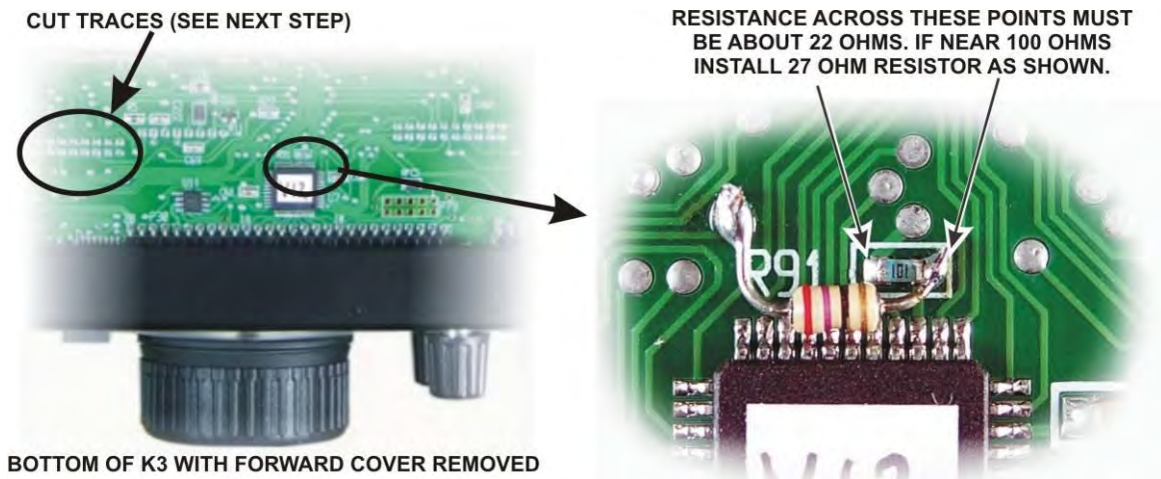

Figure 22. R91 Modification.
- Locate R91. It is a small surface-mount resistor near the front center of the RF board (see Figure 22).
- Use your DMM to measure the resistance across R91 in the circuit. If the resistance is about 22 ohms, you do not need to add the leaded resistor. Go directly to the next step below. If the resistance is near 100 ohms, install the 27 ohm (red-violet-black) 1/8-watt resistor as shown in Figure 22. The pads shown were chosen to make installation easier than trying to solder directly to both ends of R91. Take care not to use more heat or solder than necessary to avoid damaging the board or forming solder bridges across R91 or to other pads.
☐ Check to see if the traces shown below have been cut. They are on the bottom of the RF board in the area to the left of R91 with the front panel facing toward you (see Figure 22). If not, cut them as shown. This modification ensures the digital-to-analog converters (DACs) always receive the proper signal levels. It has been incorporated into all later K3s. Confirm the traces are cut using your DMM. It should indicate an open circuit, just as if your meter leads were not connected to anything.